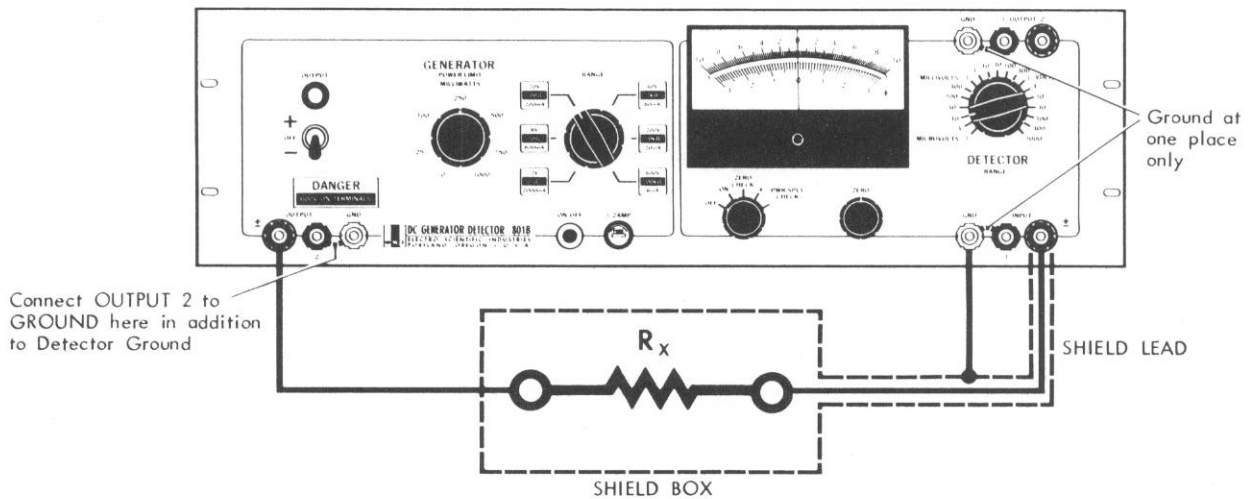

Figure 2-6. High-Resistance Measurement
To measure the approximate value of a very high resistance, such as the leakage in an insulator, use the circuit shown in Figure 2-6.
4. Connect the unknown resistance  $R_x$  in the circuit of Figure 2-6.